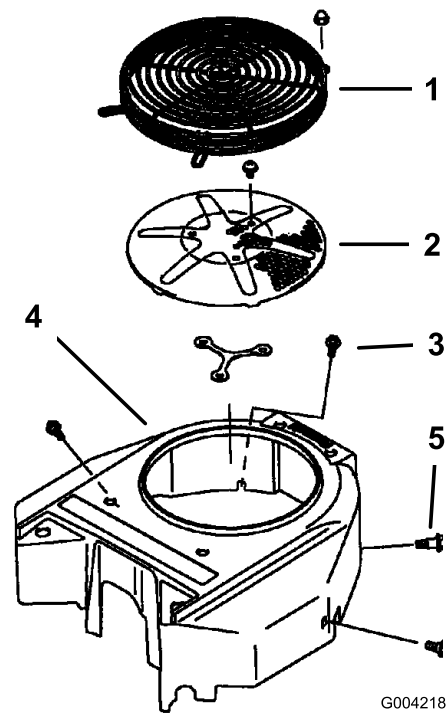

Figure 62
3. Remove the air intake screen and fan housing (Figure 62).
5. Install air intake screen, recoil starter and fan housing (Figure 62).